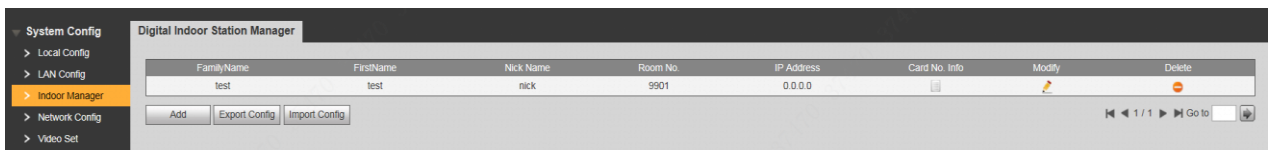

Figure 6-10
- The system displays “Digital Indoor Station Manager” interface, as shown in Figure 6-10.